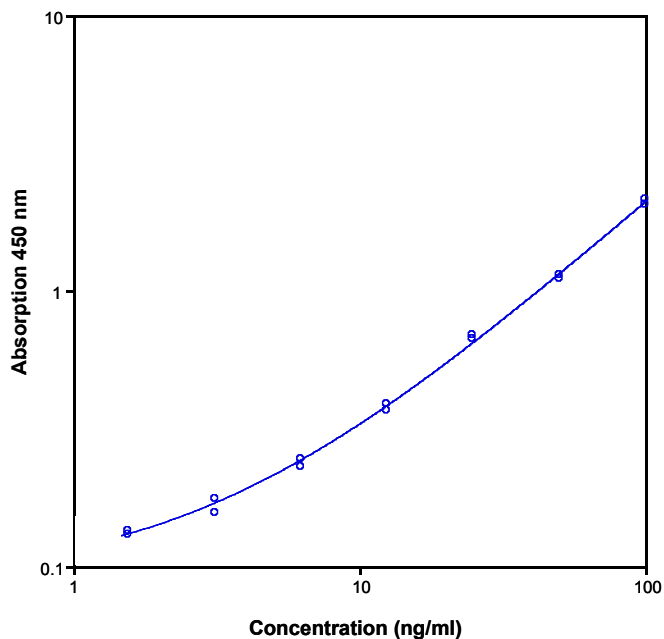

Fig. 8 Representative standard curve for Human Caspase 9 ELISA Kit. Human caspase 9 was diluted in serial 2-fold steps in sample diluent.
- A representative standard curve is shown in Figure 8.